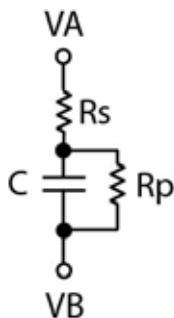

Figure 1. EL Panel Equivalent Circuit
Using laboratory data, it can be shown that the EL panel has an equivalent circuit equal to a series resistance (Rs) with a series capacitance (C) and a parallel resistance (Rp). For example, if an EL panel is 4in², then the equivalent circuit is about 20nF of capacitance in series with 450Ω of resistance and 766kΩ of parallel resistance. Figure 1 and Table 1 shows close approximations of the equivalent circuit for different EL panel sizes.